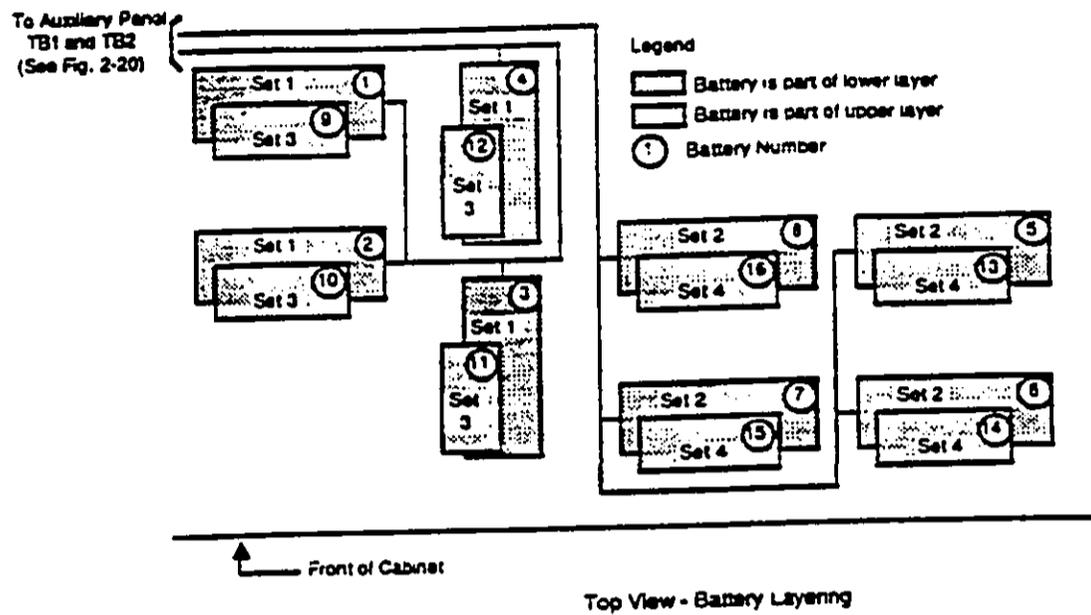

Fig. 2-19
- 2 Install the battery sets (four battery packs per set) in the location corresponding to the battery set numbers shown in Fig. 2-19. Battery sets 1 and 2 are placed at the bottom of the cabinet; sets 3 and 4 are mounted above sets 1 and 2.